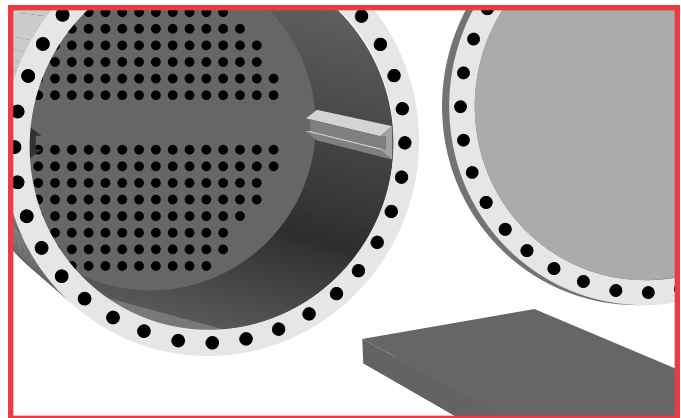

Figure 37. Coat inlet areas, baffle plate inserts and end covers for complete protection of equipment.
- Coat** the inlet areas, baffle plate inserts, and the end covers. Be sure not to apply any epoxy material to the baffle plate holder tracks, otherwise, it may be difficult to reassemble the plates after all the coatings have been applied, as illustrated in the next column. (See figure 37)